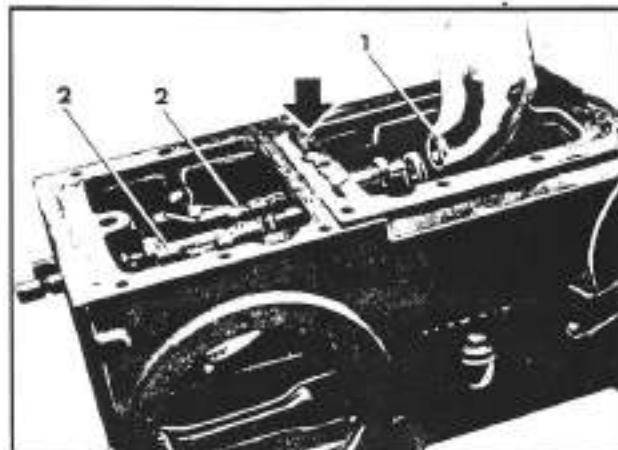

Fig. 3-28. Removal of the selector rod forks
- Take off the nuts (1; fig. 3-28) from the speed selector rods and remove the respective forks (2; fig. 3-28).